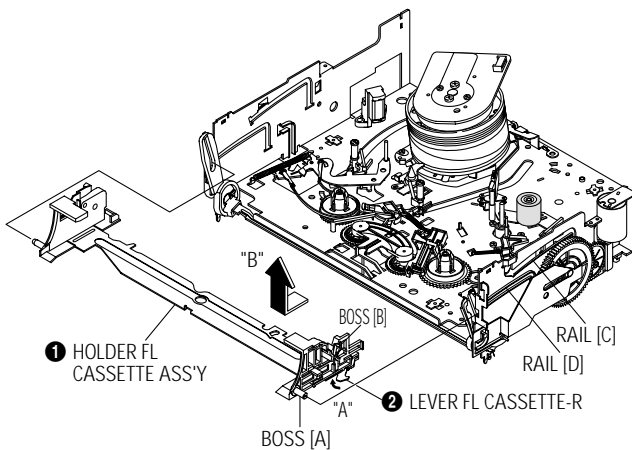

Fig. 4-10 Holder FL Cassette Ass'y Removal
- 2) Remove the Holder FL Cassette Ass'y. (Refer to Fig. 4-10)
- 3) Release the Hook ❶ in the direction of arrow "A", pull out the Lever FL Arm Ass'y ❷ from the Boss of Main Base.
- 4) Remove the Lever FL Arm Ass'y ❷ in the direction of arrow "B".
**Assembly** : When reinstalling, be sure to reassemble Lever FL Arm Ass'y ❷ after you insert the Boss ❷ in Groove [A] of Slider FL Drive ❸.